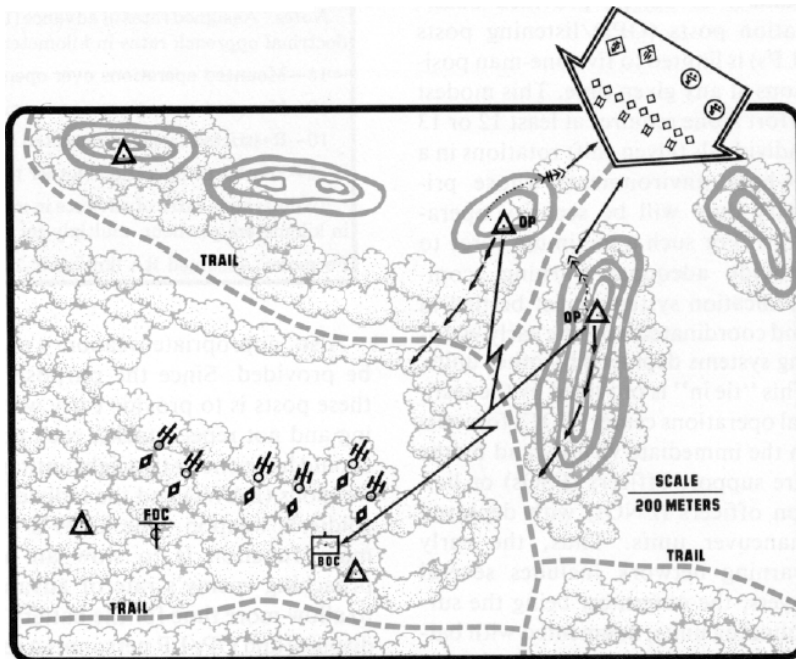

Figure 1. Initial sighting/contact of enemy forces.
• **Phase I—initial sighting/contact (figure 1):**